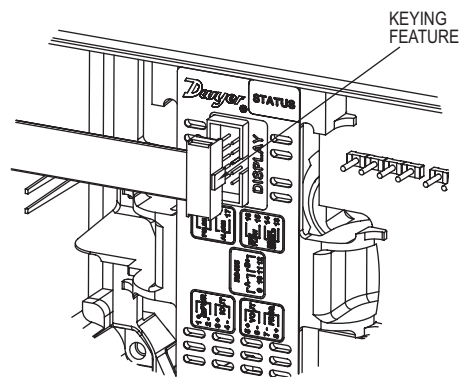

Figure 5: Connecting the display for field configurable models
1. To prepare the meter for installation, mount the provided alignment scale to the side of the meter using the two captured thumbscrews, finger tighten only. Be sure to orient the alignment scale as shown in Figure 5 below. Actual scale setting determined in next step.
- d. If using an A-IEF-DSP or the A-IEF-KIT, insert one connector of the ribbon cable supplied in the setup kit into the connector labeled "Display" in the middle of the unit. Be sure to orient the keying feature/tab. See Figure 5 below: